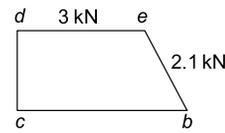

Figure 6.18
To determine R_2 and H_2 , joint (2) can now be considered, as shown by the vector diagram for the joint in Figure 6.18.